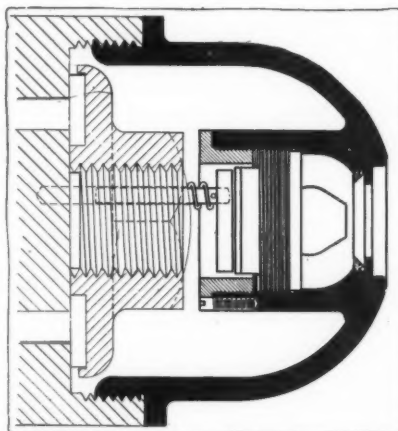

Fig. 6—Transimeter hub odometer
**The Transimeter Hub Odometer—**The American Taximeter Co., 735 Seventh avenue, New York City, has recently acquired the manufacturing rights of the Transimeter, Fig. 6, which is a hub odometer with the feature that its face does not rotate with the wheel but remains in the same position at all times, it being held in place by a pin that is inserted in the axle. The obvious advantage is that it is most convenient to read.